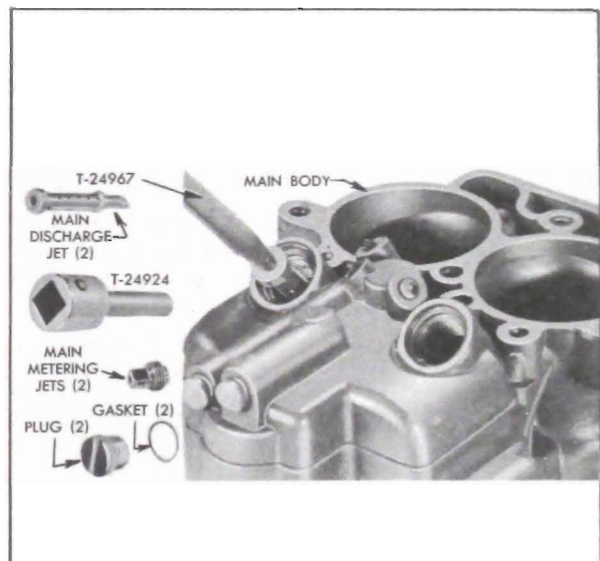

Figure 3-72—Removing Main Metering Well Parts
10. With carburetor inverted, remove main metering well plugs and gaskets using Tool T-19099. See figure 3-72.
11. Remove main metering jets using Wrench T-24924. Remove main discharge nozzles by screwing Remover T-24967 (R.H. thread) into nozzle, then pulling nozzle from main body. NOTE: *There are no lead gaskets under nozzles in this carburetor.* See figure 3-72.
6. Install main metering jets using Wrench T-24924. Install main metering well plugs using new copper gaskets if available; otherwise, make sure that plugs and seats are clean to insure tight joint. Tighten plugs with Tool T-19099. See figure 3-72.